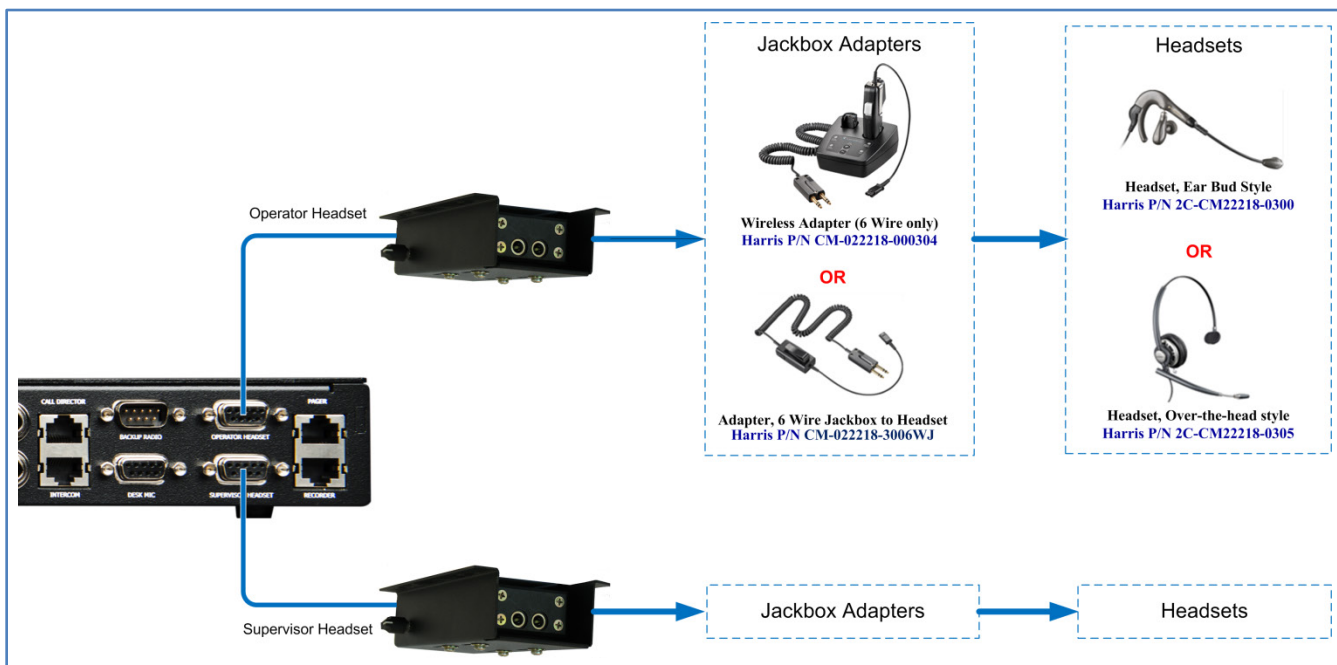

Figure 11-5: Wiring Headset Options
Using headsets that are connected to the platform using a Jackbox enables operators or supervisors to have hands-free mobility. The headsets connect to the jackbox via a wired or wireless PTT adapter that uses a dual pronged PJ-7 style connector to plug into the Jackbox. The Jackbox is hardwired to the platform using separate connection points for the Supervisor and Operator headsets as shown in Figure 11-5.
4. The headsets may then be connected to the Jackboxes via the Public Safety PJ-7 style 2-prong connector as shown in Figure 11-5.